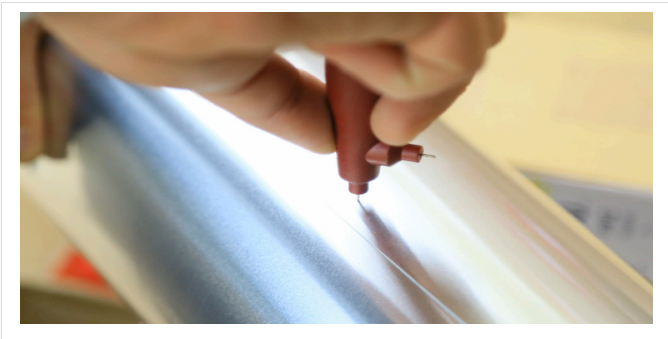

Fig. 1
- Fixing the rivets is done by placing fitting / pipe section materials in place with overlap, using the Puncher press until a hole is made through both layers, **Fig 1**.